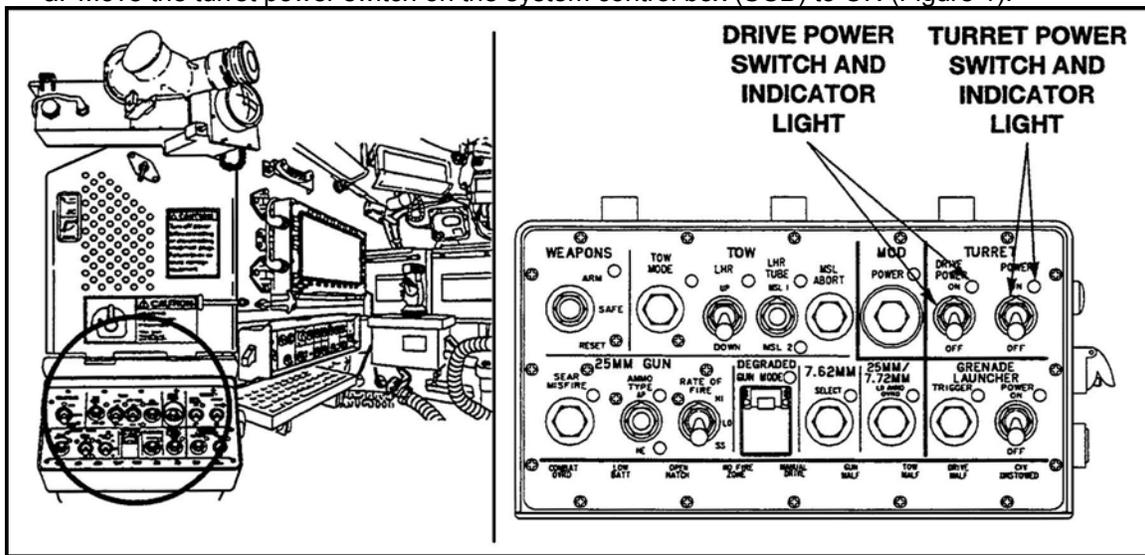

Figure 1. Turret power switch.
- a. Move the turret power switch on the system control box (SCB) to ON (Figure 1).